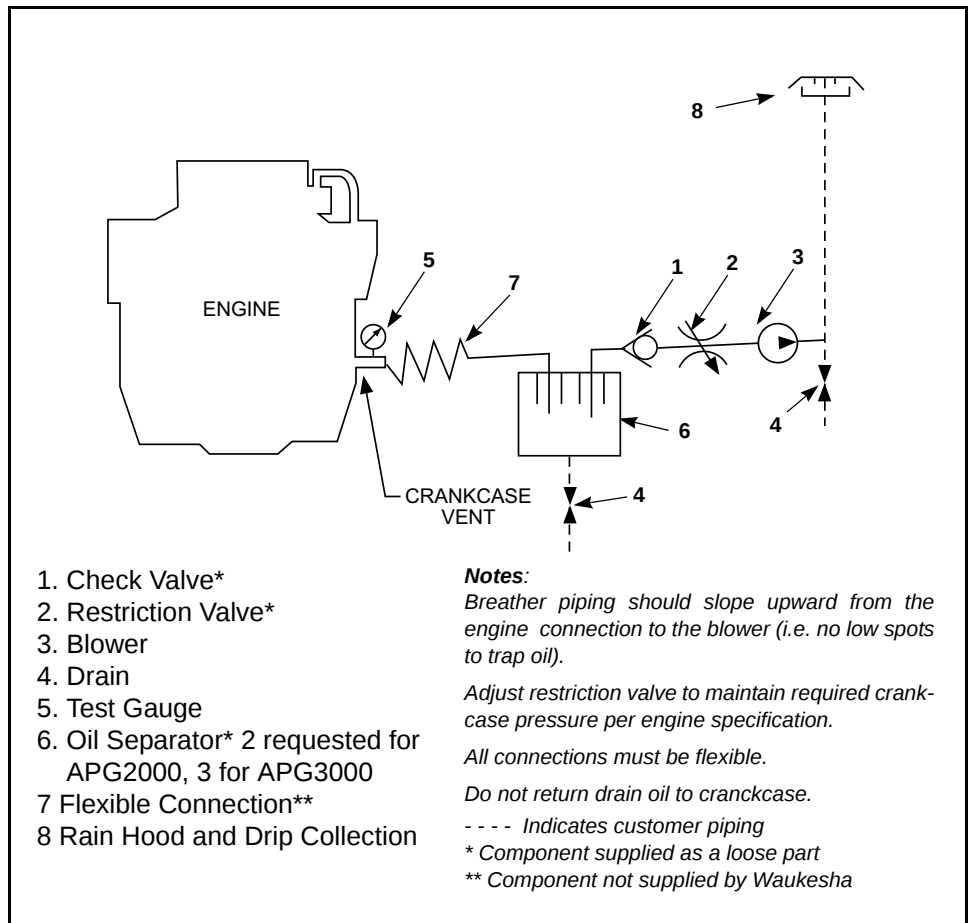

Figure 5-12 APG2000/3000 Breather System Schematic
- Vapors can be removed via a blower system venting the crankcase vapors to the ambient air (see Figure 5-12). This type of blower system is required on the ATGL, VHP-GLD, APG2000/12V220GL and APG3000/18V220GL engines, however, it can be used on any engine model when properly designed. The piping should slope upward from the engine connection to the blower to prevent trapping of oil in the low spots.